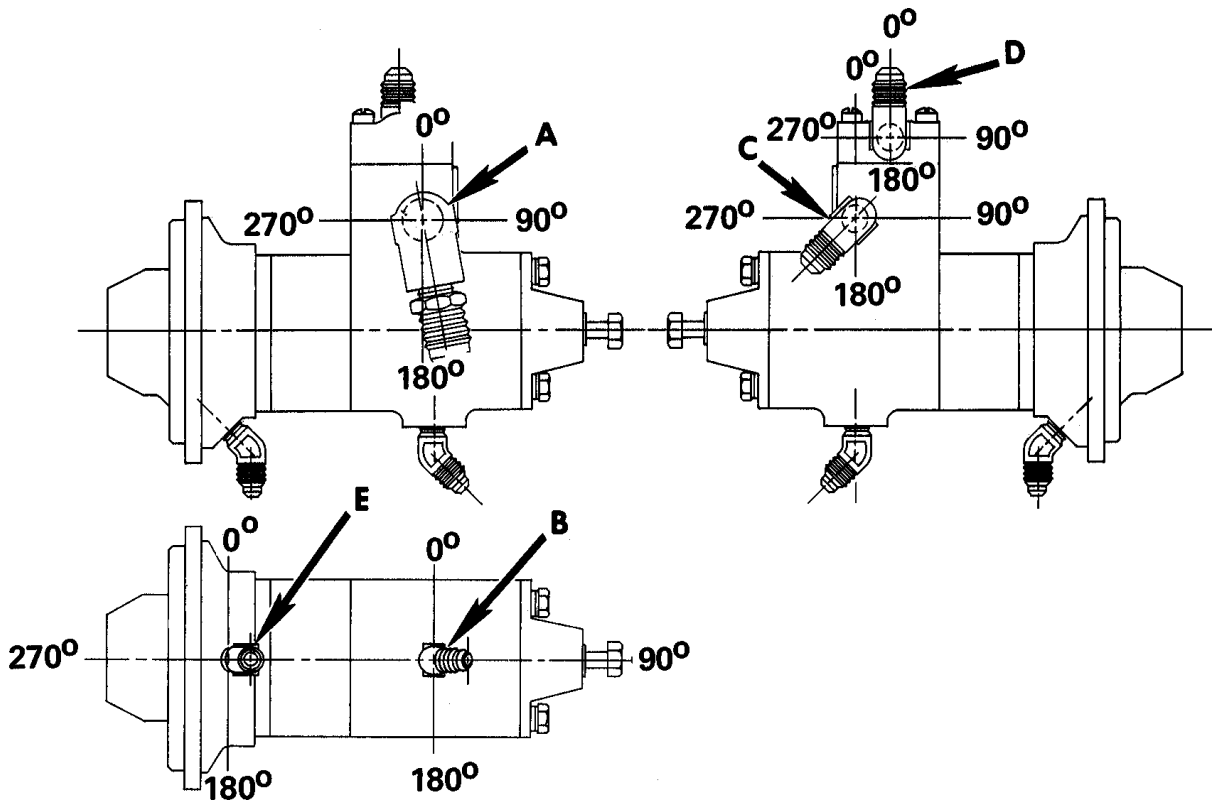

FIGURE 7-3. FUEL PUMP AND VAPOR SEPARATOR FITTING LOCATIONS
- a. Install plugs and any necessary replacement connection fittings in proper ports of fuel injection components. (See Figures 7-3 thru 7-5)